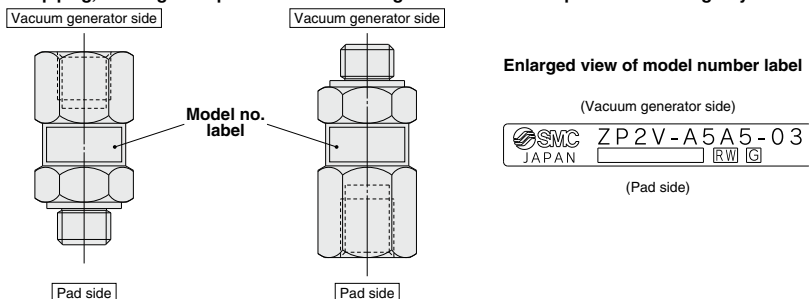

Fig. 1. Mounting direction
4. When piping, do not get the pad side and vacuum generator side of the product the wrong way round. (Refer to Fig. 1.)